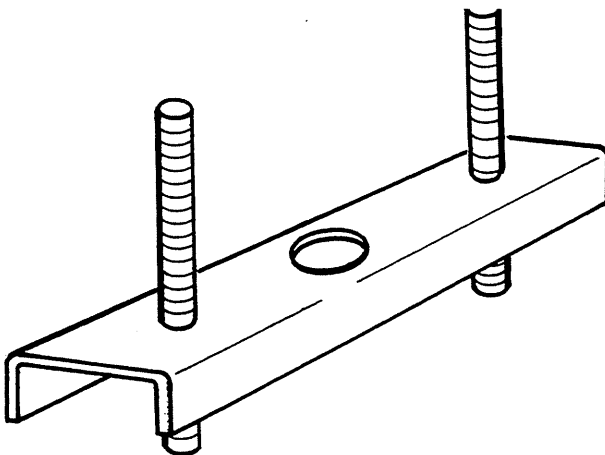

Fig. 29
- Planetary carriers compression tool, No. 3376920 M1 (Fig. 29)